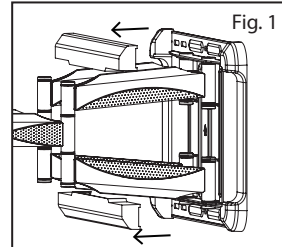

Fig. 1
- 2** Carefully remove the plastic covers from the mount as shown (see Fig. 1).
- 1** Carefully remove the plastic covers from the mount as shown (see Fig. 1).